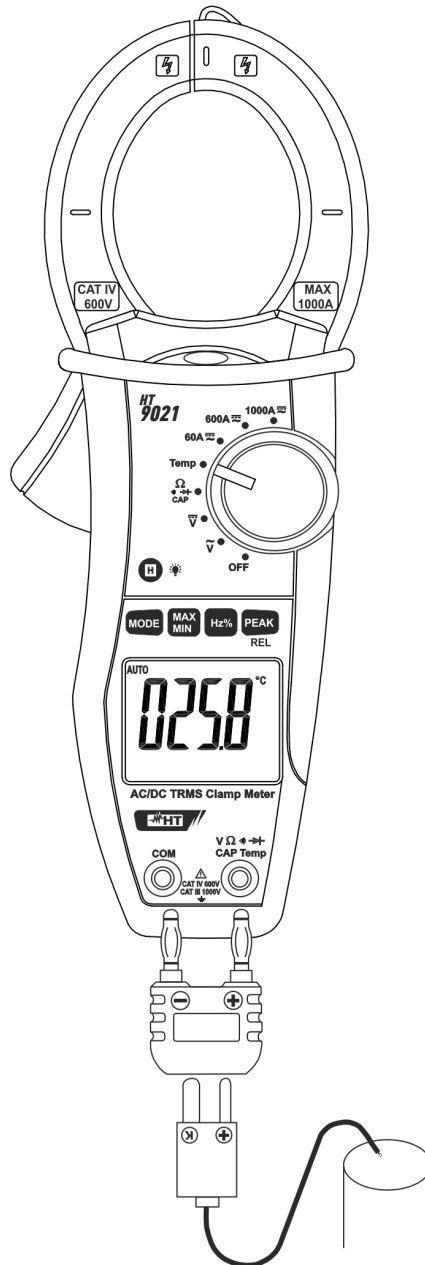

Fig. 8: Taking Temperature measurement
3. Insert the type K bead probe in **VΩ** → **CAP Temp** and **COM** inputs terminals using the standard adapter and observing the correct polarity (see Fig. 8). The temperature value is shown at display